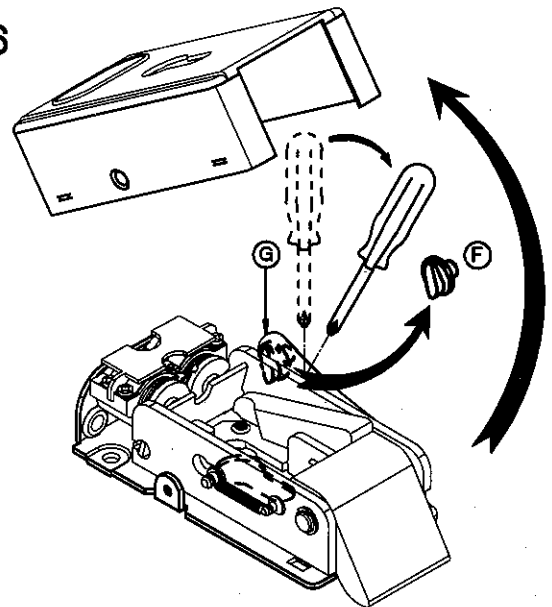

Fig.4
(GB) TO ADJUST THE BACKSET OF THE LOCK (ONLY FOR LOCK V9083 WITH ROUND CYLINDER - SEE FIGURE 4)
(D) EINTRITT REGELUNG (NUR FÜR ELEKTROSCHLOSS V9083 MIT RUNDZYLINDER - SEHEN SIE FIGURE 4)
(F) POUR REGLER LA DISTANCE D'ENTREE (SEULEMENT POUR SERRURE V9083 AVEC CYLINDRE ROND - VOIR FIGURE 4)
GB HOW TO CHANGE OPENING FUNCTION (ONLY FOR LOCKS V06 AND V9083 - SEE FIGURE 4)
D ÖFFNUNG ÄNDERUNG (NUR FÜR ELEKTROSCHLÖSSER V06 ET V9083 - SEHEN SIE FIGURE 4)
F MODIFIER LA FONCTION D'OUVERTURE (SEULEMENT POUR LES SERRURES V06 ET V9083 - VOIR FIGURE 4)